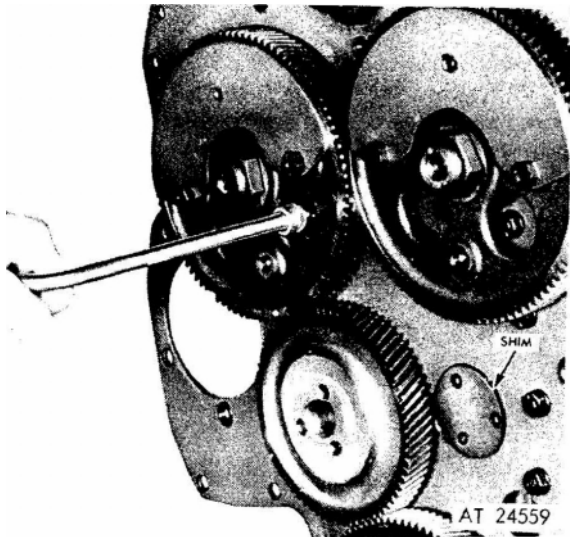

Figure 2. Location of shim.
3. The flywheel housing has an integral cast hub. Install a flywheel housing-to-end plate shim (.015" thick). Use grease to affix the shim to the cylinder block rear end plate (fig. 2).